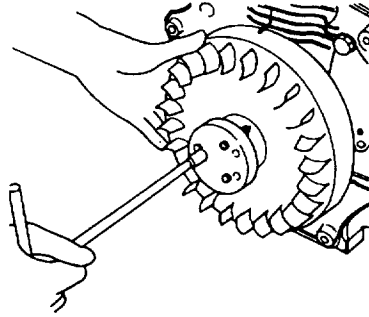

Figure 6-14 Removing the flywheel
- 3) Remove locknut and flywheel using flywheel extractor (special tool). See Figure 6-14.